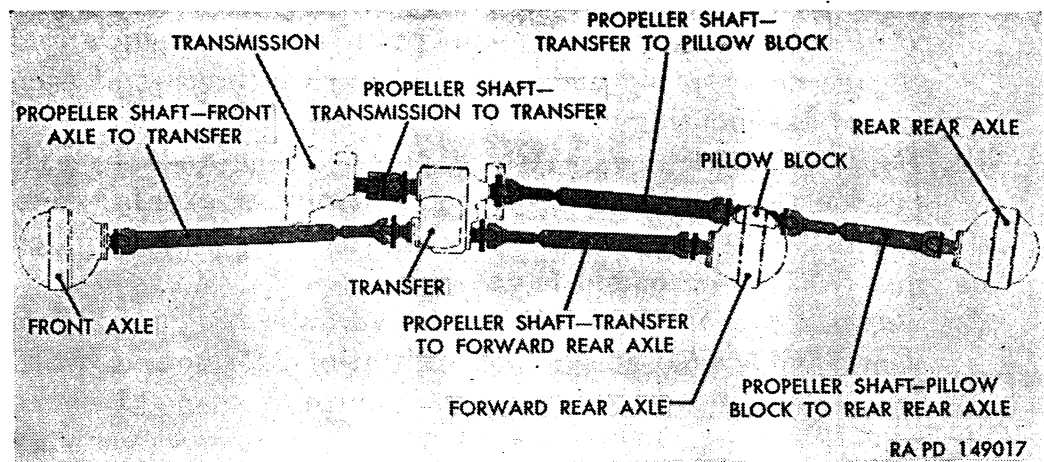

Figure 238. Propeller shafts and universal joint arrangement.
*a. General.* This section includes replacement of axle drive propeller shafts and universal joints, pillow block, and repair of universal joint assemblies. Arrangement of axle drive propeller shafts is shown in figure 238.
*Note.* Propeller shafts (fig. 238) are installed with slip joint toward front of vehicle, except shaft used between front axle and transfer, which is installed with slip joint toward rear of vehicle.